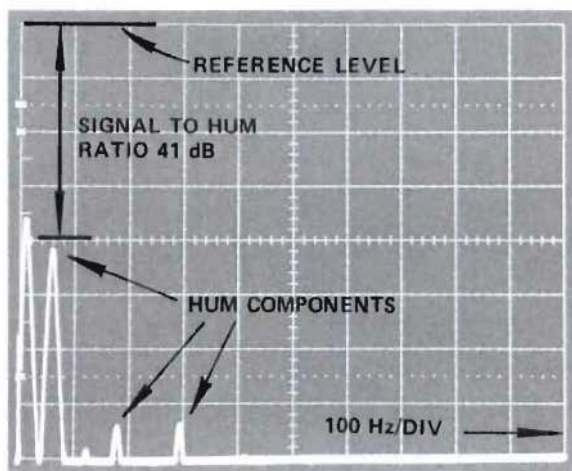

Figure 37 Example of S/N and Hum Measurements
5. The difference in amplitude (Figure 37) between the signal reference level and the noise floor, less a correction from the measured bandwidth (3 kHz) to the desired bandwidth (15 kHz), is the signal to noise ratio. The correction factor to be subtracted is 7 dB. Example: S/N equals V_S minus V_N minus Correction Factor; S/N equals 0 dB - 72 dB - (-7 dB) = -65 dB (S/N).
2. Signal to hum ratio can be determined by measuring the amplitude difference between the Signal Reference Level (step 3) and any 60 or 120 Hz hum components. An example is shown in Figure 37.